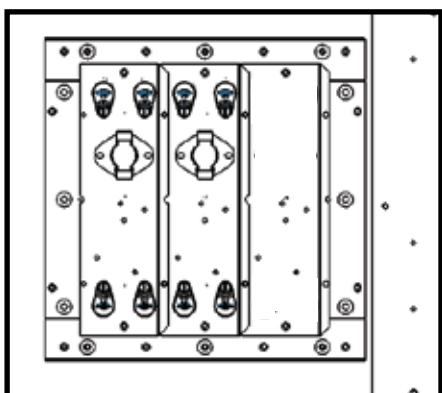

Figure 1B. Q5/Q6 & P6 Series
P6SP/Q6SP/Q5SN Series – Remove the element opening cover. Four (4) mounting plates are required around the element kit to secure and seal the opening. Mount the longer plates to the top and bottom of the element assembly prior to inserting into the unit. Secure the element assembly in place using screws removed with the cover. Attach the remaining two side close off plates. **NOTE:** 240V -009Q and -018Q kits require the addition of a blank element plate included in the kit. See Figure 1B.